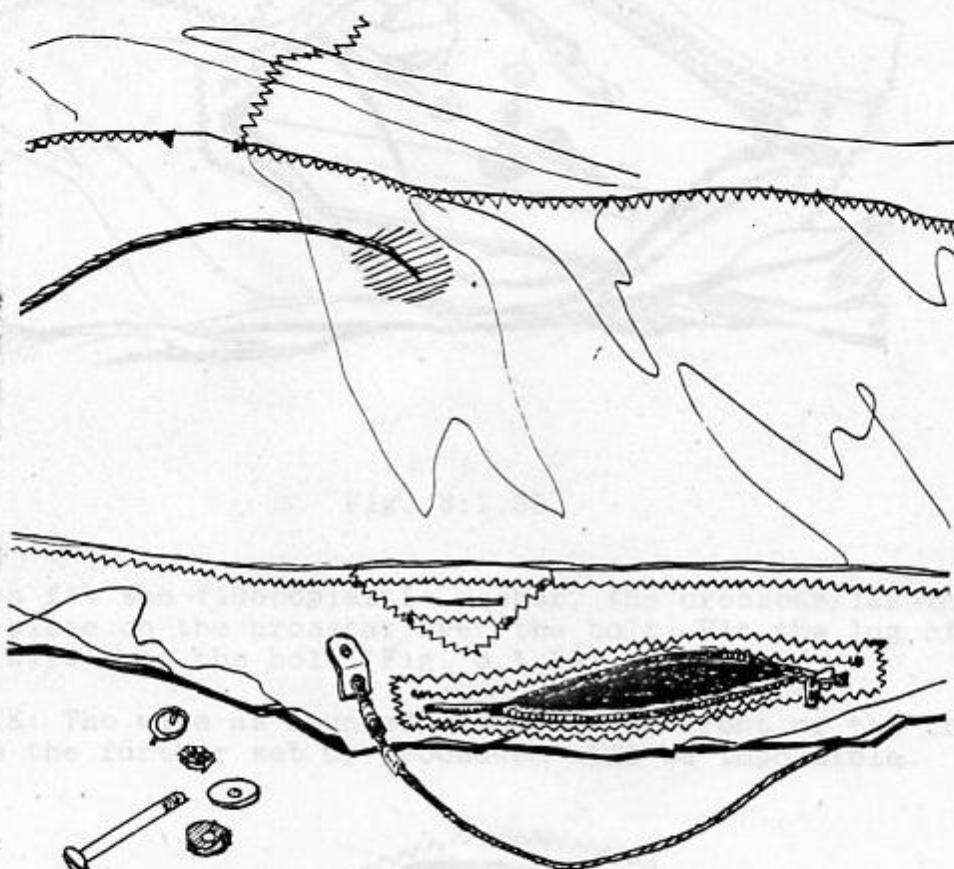

Fig. 3.1.34.
19. Spread the bottom wires. Put the bottom side wires through the corresponding holes in the bottom surface (Fig. 3.1.34)